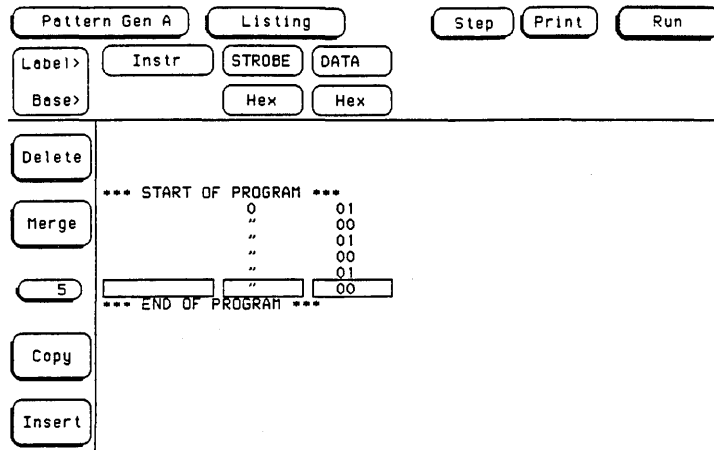

Figure 3-21. Example Program
- k. Perform step i in paragraph 3-6, "DATA PERIOD ACCURACY TEST" for a program as shown in figure 3-21.